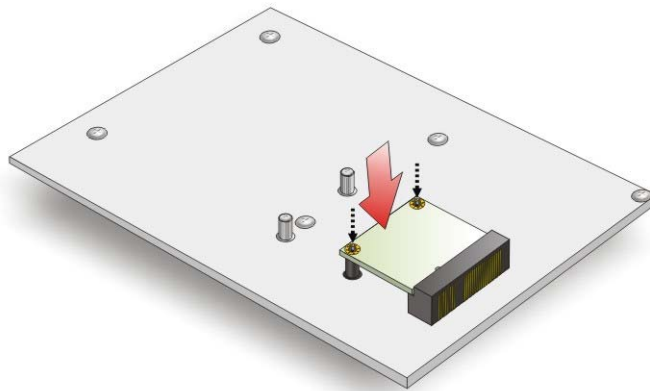

Figure 4-19: Secure the Half-size PCIe Mini Card
Step 4: Push down until the card clips into place. Push the other end of the card down until it clips into place on the plastic shafts (Figure 4-19).